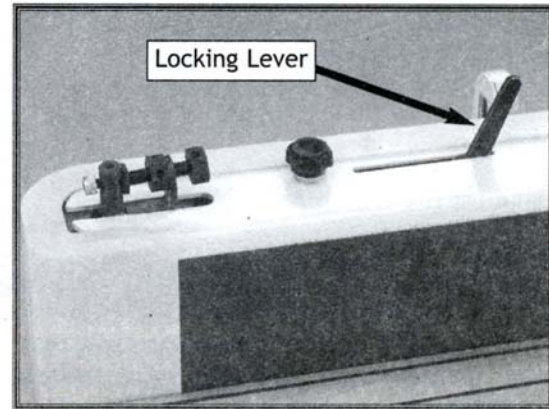

Figure 6. Belt locking lever.
2. Make sure all guards are in place and the belt locking lever is in the locked position as shown in Figure 6.